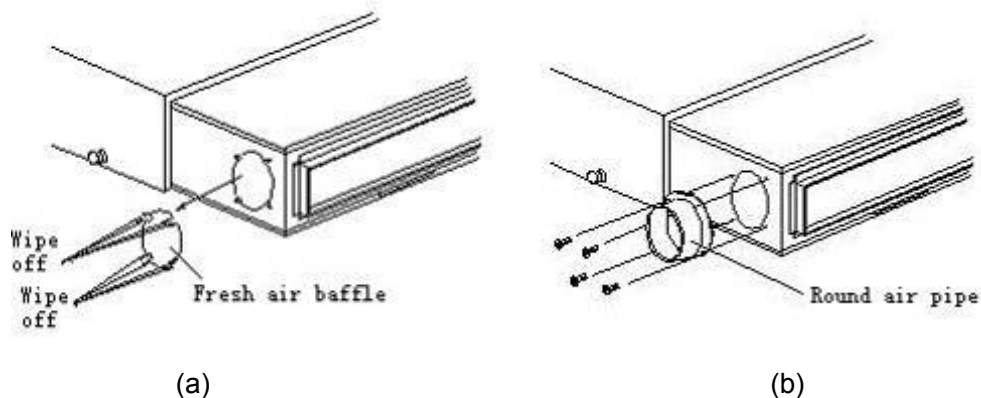

Figure 1-1-13
- ◆ When connecting fresh air duct, remove baffle plate of fresh air as Figure 1-1-13(a). If fresh air is not applied, seal the gap of baffle plate of fresh air with sponge.